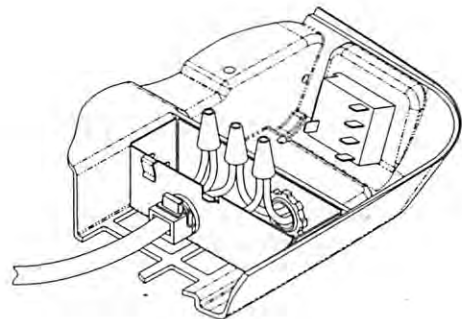

FIGURE 13
- F. Install the provided cable clamp in the 7/8" dia. hole on the back of the metal field wiring box. Insert the supply wiring through the cable clamp and into the field wiring box so that 4 - 6" of supply conductor is inside the box. Secure the cable clamp over the supply wire sheath so that no movement is possible (See Figure 13).
- G. Connect the supply power conductors to the black and white pigtail wires and the supply ground wire to the green pigtail wire found in the field wiring box using the 3 provided wire nuts. **IMPORTANT** - Connect the black supply to the black pigtail and the white supply to the white pigtail. Using a U.L. approved electrical tape, secure the wire nuts to wires in a workmanlike manner (See Figure 13).